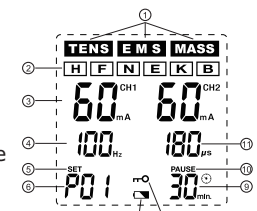

Fig. 4
**Step 5:** Press the key (5) (CH1⊕) or (11) (CH2⊕) in order to increase the output intensity of channel 1 (CH1) or channel (CH2) and to start the application. Press the key (7) (CH1⊖) or (9) (CH2⊖), in order to reduce the output intensity of channel 1 (CH1) or channel 2 (CH2). On the display of the device, the selected output intensity as well as the remaining application duration will be shown. Each application starts from the intensity level 1 for each channel. You can read the current intensity setting on the display (see (3), **Fig. 4**): Information about the output intensity (here, e. g. 60 mA) in mA (milliampere) for channel CH1 (left) and CH2 (right).